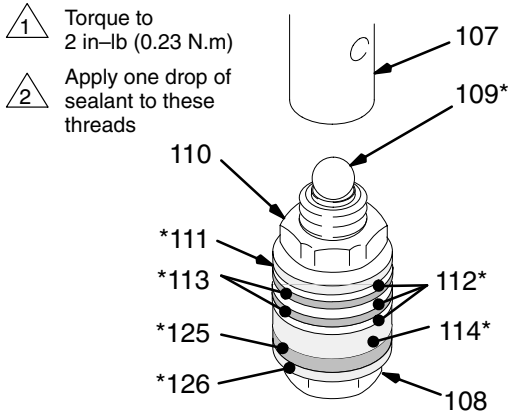

Fig. 19
- Tighten the nut (110) onto the piston valve (108) to 2 in-lb (0.23 N.m). See Fig. 19.
- Place the ball (109*) on the piston valve (108). See Fig. 19.